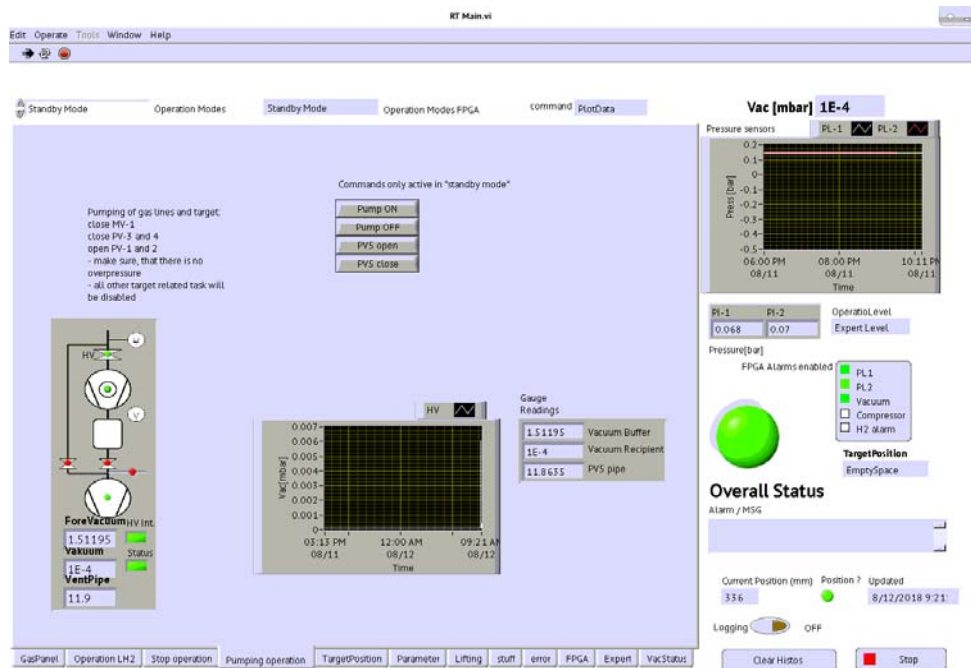

Figure 7: The 'Pumping operation' tab of RTMain.vi. This is used to operate PV-5 for purging the target, and to monitor vacuum system's pressures.
- ix. using 'Pumping operation' tab of RTMain.vi open PV-5 (Fig. 7). Mechanical pump will turn on automatically. Pump out gas lines and target cell. Wait until the supply pressure, PI-1, shows -0.45 bar,
- ix. leave target cell pressurized for about 5 hours. Check time evolution over those 5 hours of PI-1 (target pressure) and 'HV' (vacuum chamber pressure) using real-time graphs on 'Pumping operation' tab of RTMain.vi (Fig. 7).